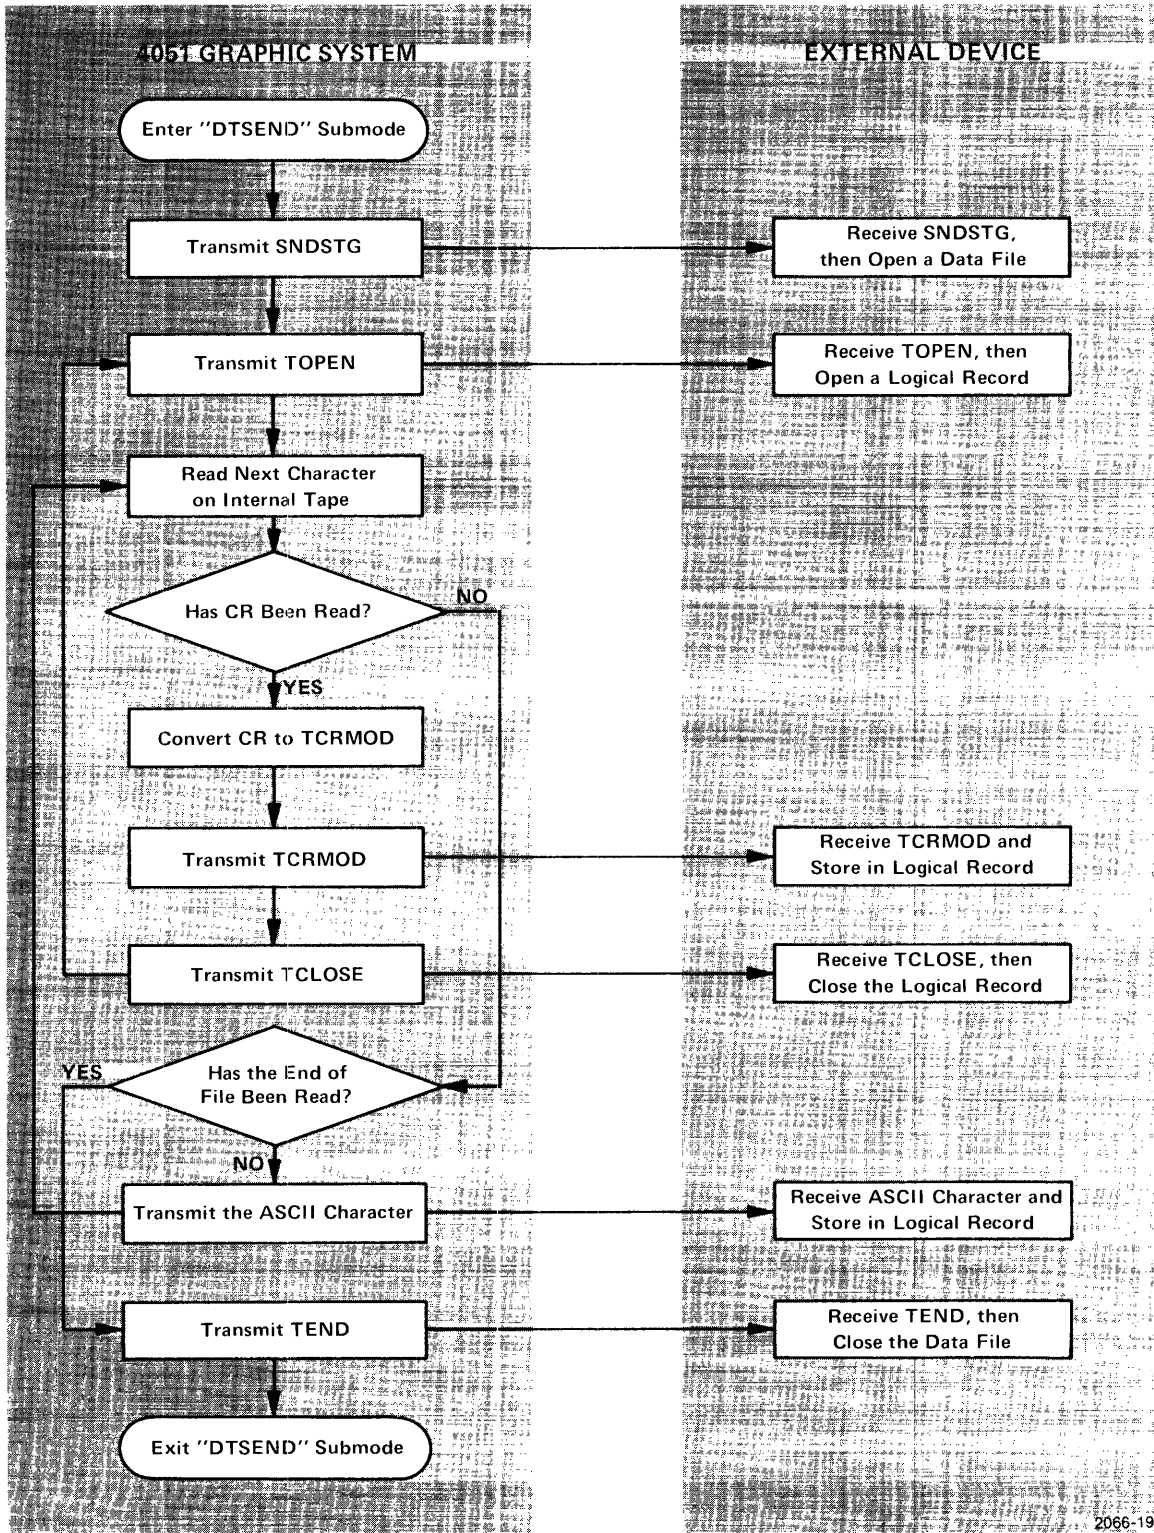
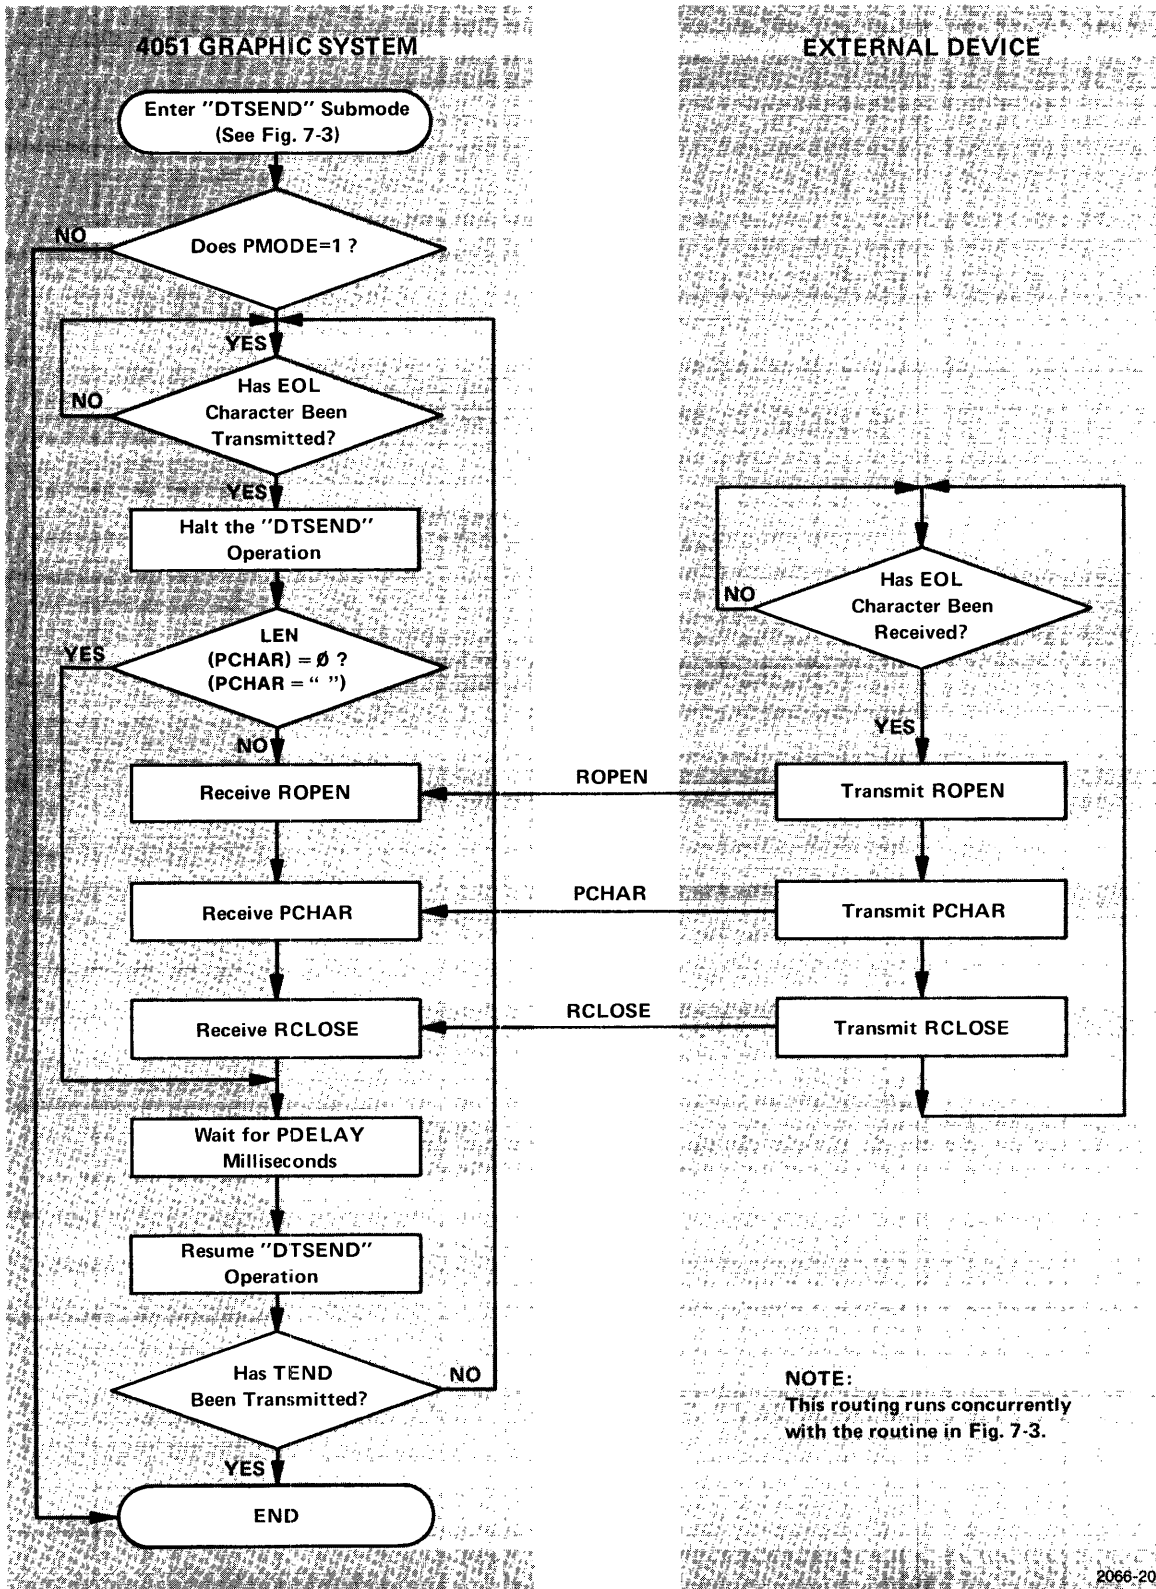

Fig. 7-3. Data Send submode flow chart.
Fig. 7-4. Data Send submode PROMPT routine flow chart.
The Data Send submode is entered from the BASIC language mode by executing the statement CALL "DTSEND", or from Terminal mode by pressing user-definable key 4 (marked DATA SEND on the overlay). As with Data Receive, a tape file on the internal tape cartridge is found first by executing a FIND statement in BASIC, or by pressing user-definable key 13 in Terminal mode (marked FIND FILE on the overlay). The sequence of events outlined in the flowchart (Fig. 7-3) occurs upon entry into the Data Send submode.
Fig. 7-4 illustrates the sequence of events that occur when the 4051 enters the Prompted Data Send submode. An explanation of these events follow the figure.
Each time the 4051 enters the Data Send submode, it checks to see if the PMODE parameter is set to 1. If PMODE is set to 1, the prompt routine is activated as shown in Fig. 7-4. If PMODE is set to 0, the prompt routine is made inactive. It is important to realize that the prompt mode routine runs concurrently with the DTSEND routine shown in Fig. 7-3. They run side-by-side and do not intermingle with each other.
As shown in the flow chart in Fig. 7-4, the Data Send operation stops after the EOL character is transmitted by the 4051. The 4051 then waits for the external device to send ROPEN, followed by PCHAR, followed by RCLOSE, in that order. It is up to the external device to recognize the EOL character as the logical record delimiter and to transmit the ROPEN-PCHAR-RCLOSE character strings as soon as it is ready to receive another logical record. When the 4051 receives RCLOSE, a time period of PDELAY milliseconds is allowed to elapse before the Data Send operation resumes. The PDELAY parameter is specified in a CALL "PROMPT" statement in BASIC before the Data Send submode is entered.